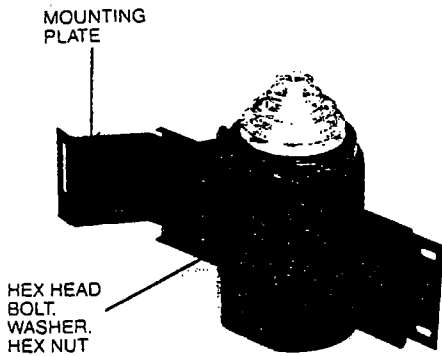

FIGURE 5
1. Position motor on mounting plate. Secure with four hex head bolts, eight washers, and four hex nuts at slots in mounting plate (Figure 5).